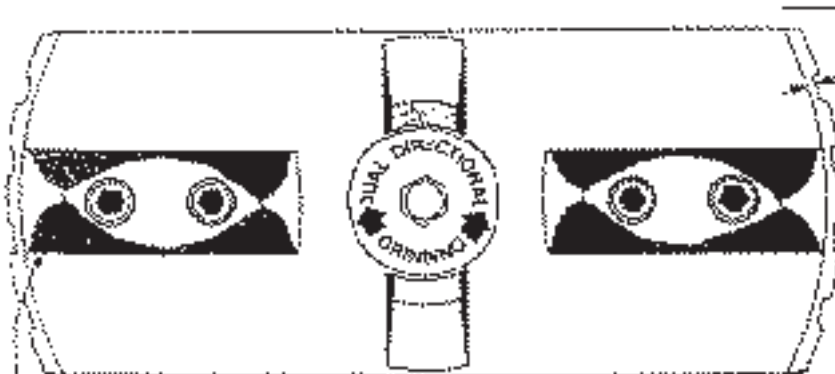

FIG. 3
C. When the edges of the reversed impact bars become rounded (Figure 3), the bars must be replaced. See below and Page 14.
8. The second point of wear is the clearance between the outer edge of the rotor and the inner diameter of the sizing ring teeth (Figure 3).
If the space between the rotor and sizing ring has grown to $\frac{3}{32}$ " (.094) and the impact bars are worn (rounded) as shown in Figure 3, replacement of total rotor and sizing ring is advisable. See below and Page 14.